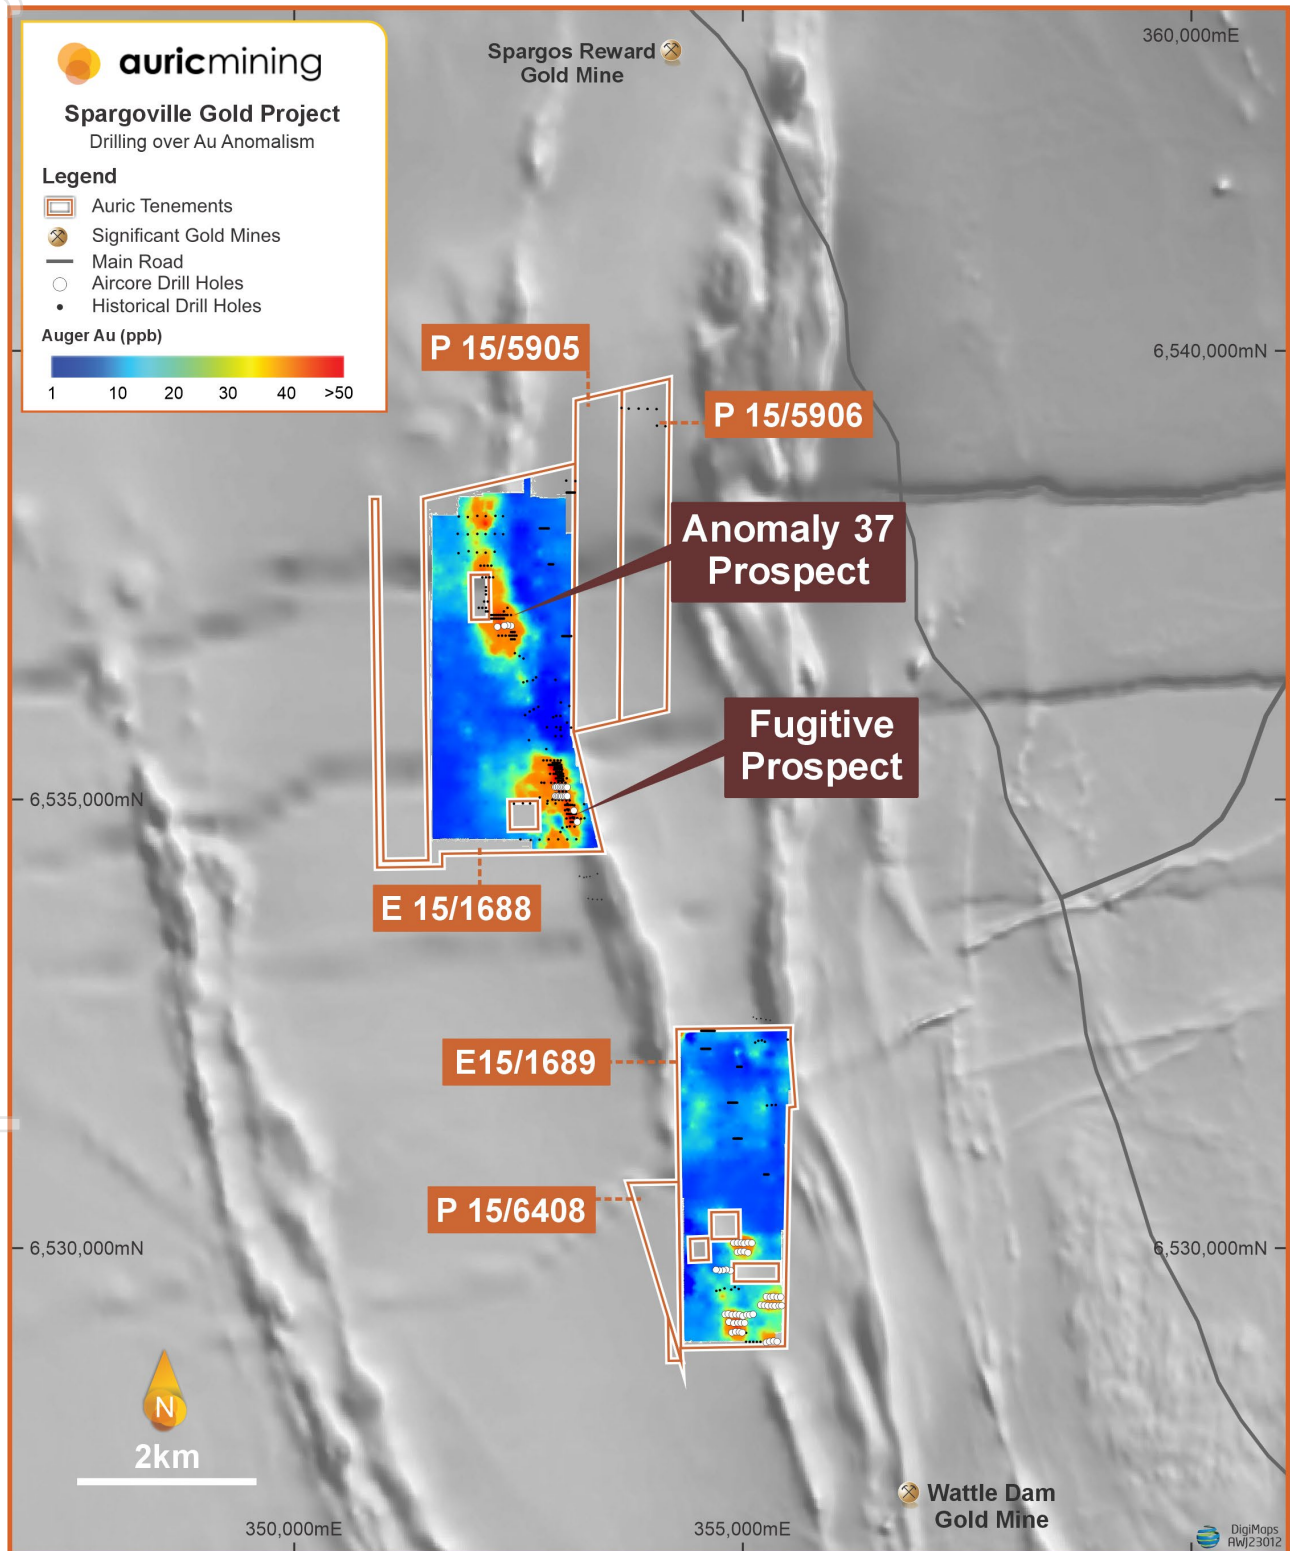

Figure 1. Spargoville aircore drill holes relative to soil auger gold anomalism and grey scale magnetic image.
**Auric Mining Limited** (ASX: **AWJ**) (**Auric** or **the Company**) is pleased to provide an update following the completion of drilling and receipt of assay results for the Company's Spargoville Project near Widgiemooltha, Western Australia. The drilling program was completed in July 2024 with 71 aircore holes drilled for 2,259m (Figure 1).
A total of 71 aircore holes were drilled by Kalgoorlie-based Kennedy Drilling in July. Holes were drilled in traverses across distinctive gold anomalies defined by auger sampling within two tenements; E15/1688 and E15/1689 (Figure 1). Eighteen of the aircore holes infilled gaps in drilling in the soil-auger anomaly defining the Fugitive Prospect.